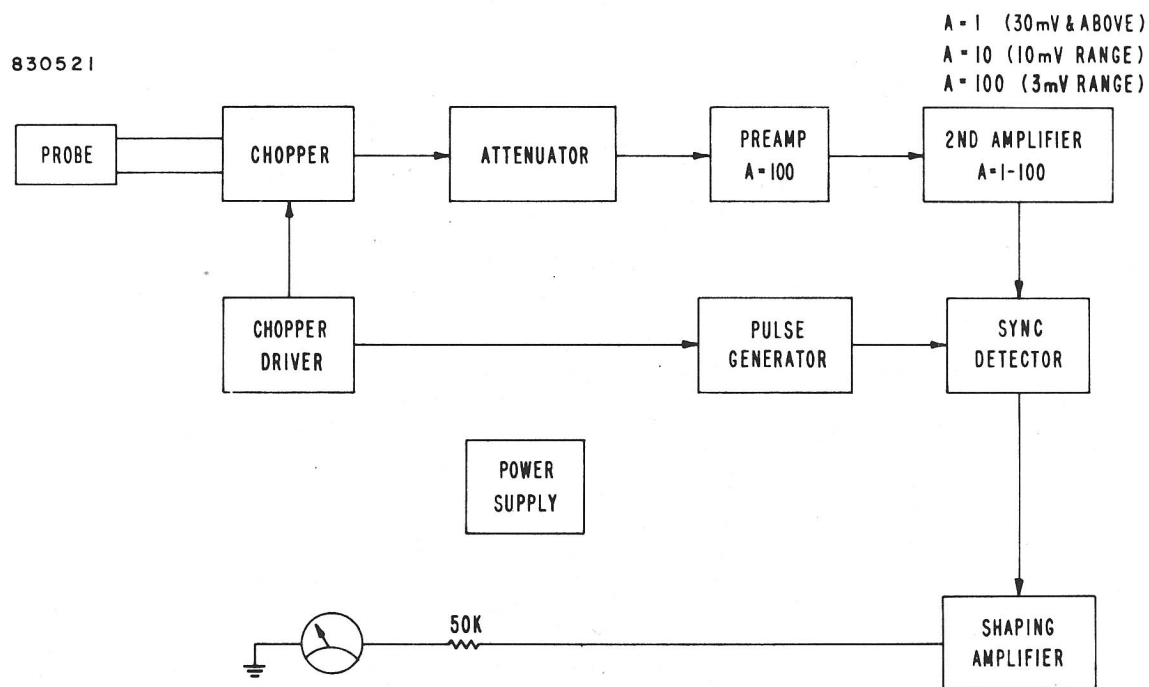

Figure 9. Block Diagram
- d. If the normal dc output voltages are measured in Step b, the trouble should be sought in the other sections of the instrument. It is suggested that the Block Diagram, Figure 9, be consulted in conjunction with the Schematics at the back of the Instruction Book. Using an oscilloscope and voltmeter, a thorough analysis of the circuits should be made, working back from the output to the input. Dc and ac voltages, as well as waveforms, are indicated in the Schematics for critical points in the circuits.